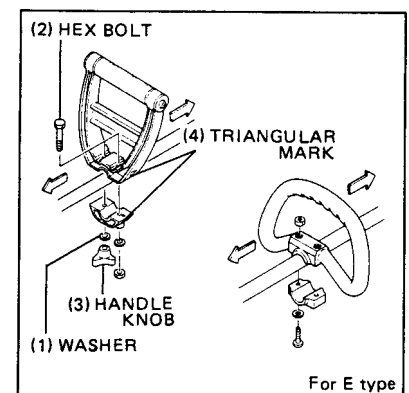

Fig. 3
1. Remove throttle lever screw (1) and slide the throttle lever assembly away from the shaft grip temporarily. Connect the throttle wire in the hole of the throttle lever.
2. Locate throttle lever in its original position by squeezing the trigger, then slide the throttle lever assembly back against the shaft grip then retighten the throttle lever screw (1).
3. Installation of handle (Fig. 3)
1. Secure the handle to the shaft as shown in Figure 3. Adjust the handle according to your height, etc.